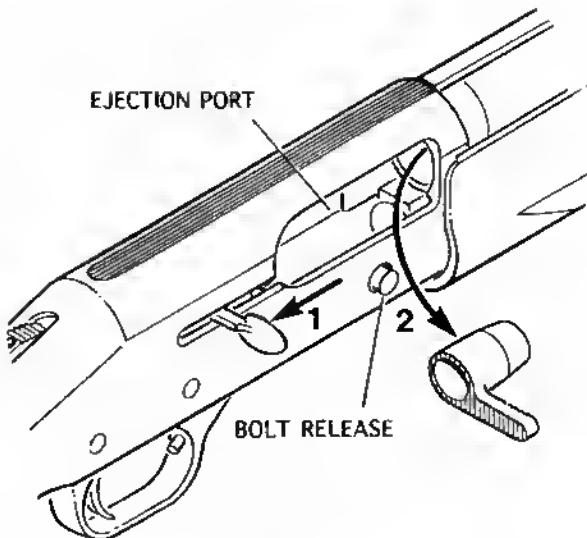

Figure 4
1. With the safety button fully rearward in the "ON" position and the shotgun pointed in a safe direction, hold the shotgun in your left hand by the forearm, and grasp the operating handle with your right hand (Figure 4).
Keep fingers clear of operating handle and ejection port when closing action. (Figure 4)
With safety button fully rearward in the "ON" (SAFE) position, and the shotgun pointed in a safe direction, press bolt release until action releases (Figure 4).
Open the action by pulling the operating handle completely rearward until it locks in the open position. (See "TO LOCK ACTION OPEN", Figure 4)
3. With safety button fully rearward in the "ON" (SAFE) position, and the muzzle pointed in a safe direction, press bolt release until action releases (Figure 4).
3. While holding the elevator down with your thumb, press the bolt release (Figure 4). This will release one shell from the magazine tube under spring pressure.